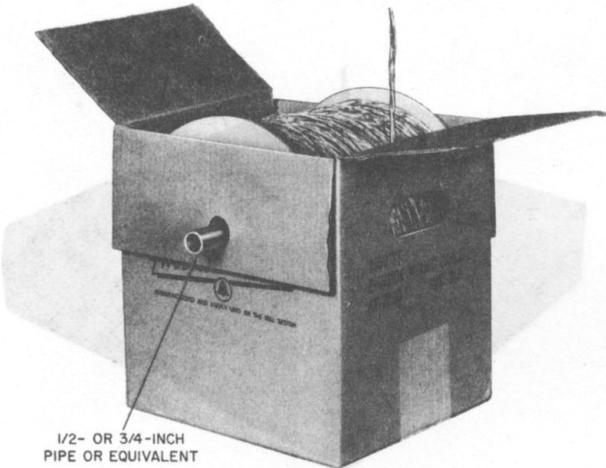

Fig. 4—Carton Used as Reel Support For G Station or E Inside Wiring Cable
- 3.01** To dispense G station wire from a small reel, open top of carton and fold sides down to match holes in side of carton; then insert pipe or equivalent implement through holes in carton and hole in reel, using the carton as reel support (Fig. 4).